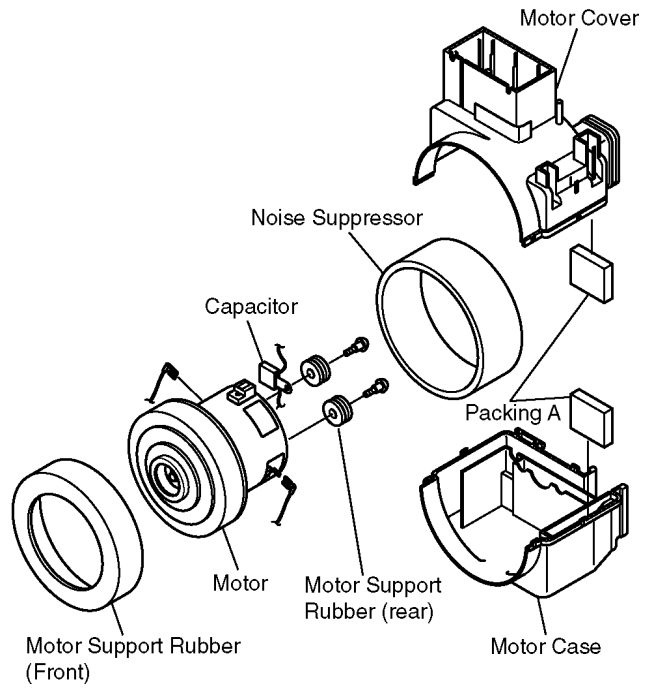

Fig.21
1. Remove the motor from the noise suppressor and motor support rubbers (front/rear) and capacitor. (Fig.21)
1. Install the motor support rubbers (front/rear) and capacitor on the motor. (Fig.21)